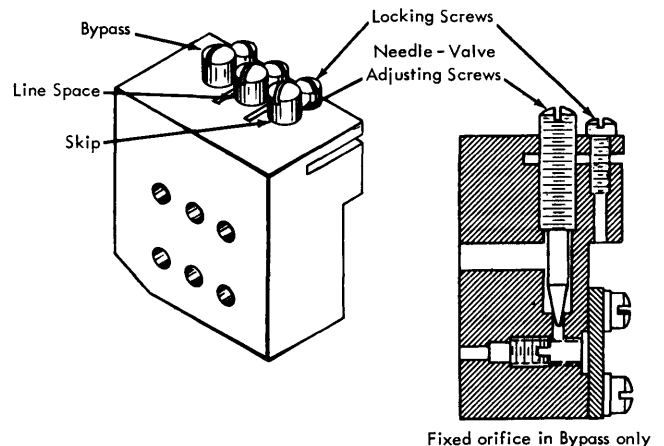

Figure 50. Needle Valves
4. Loosen the lock screw for the center needle valve (the center right screw, Figure 50).
- b. Back off on the center left screw (Figure 50) until you feel the detent nip the detent wheel. The impact will be transmitted through the screwdriver.
4. Loosen the lock screw for the skip needle valve (the front right screw, Figure 50).
- b. Back off on the front left screw (Figure 50) until you feel the detent nip the detent wheel. The impact will be transmitted through the screwdriver.
- (1) If no nipping is detected after turning out a maximum of five turns, stop the carriage motor so that the hydraulic pumps are not moving. Turn down on the front left screw until it is closed. Then back off five full turns on this screw. Tighten the lock screw (the front right screw).
- (2) If nipping is detected, adjust the needle valve to stop the detent from nipping.
5. Loosen the lock screw for the bypass needle valve (the rear right screw, Figure 50).